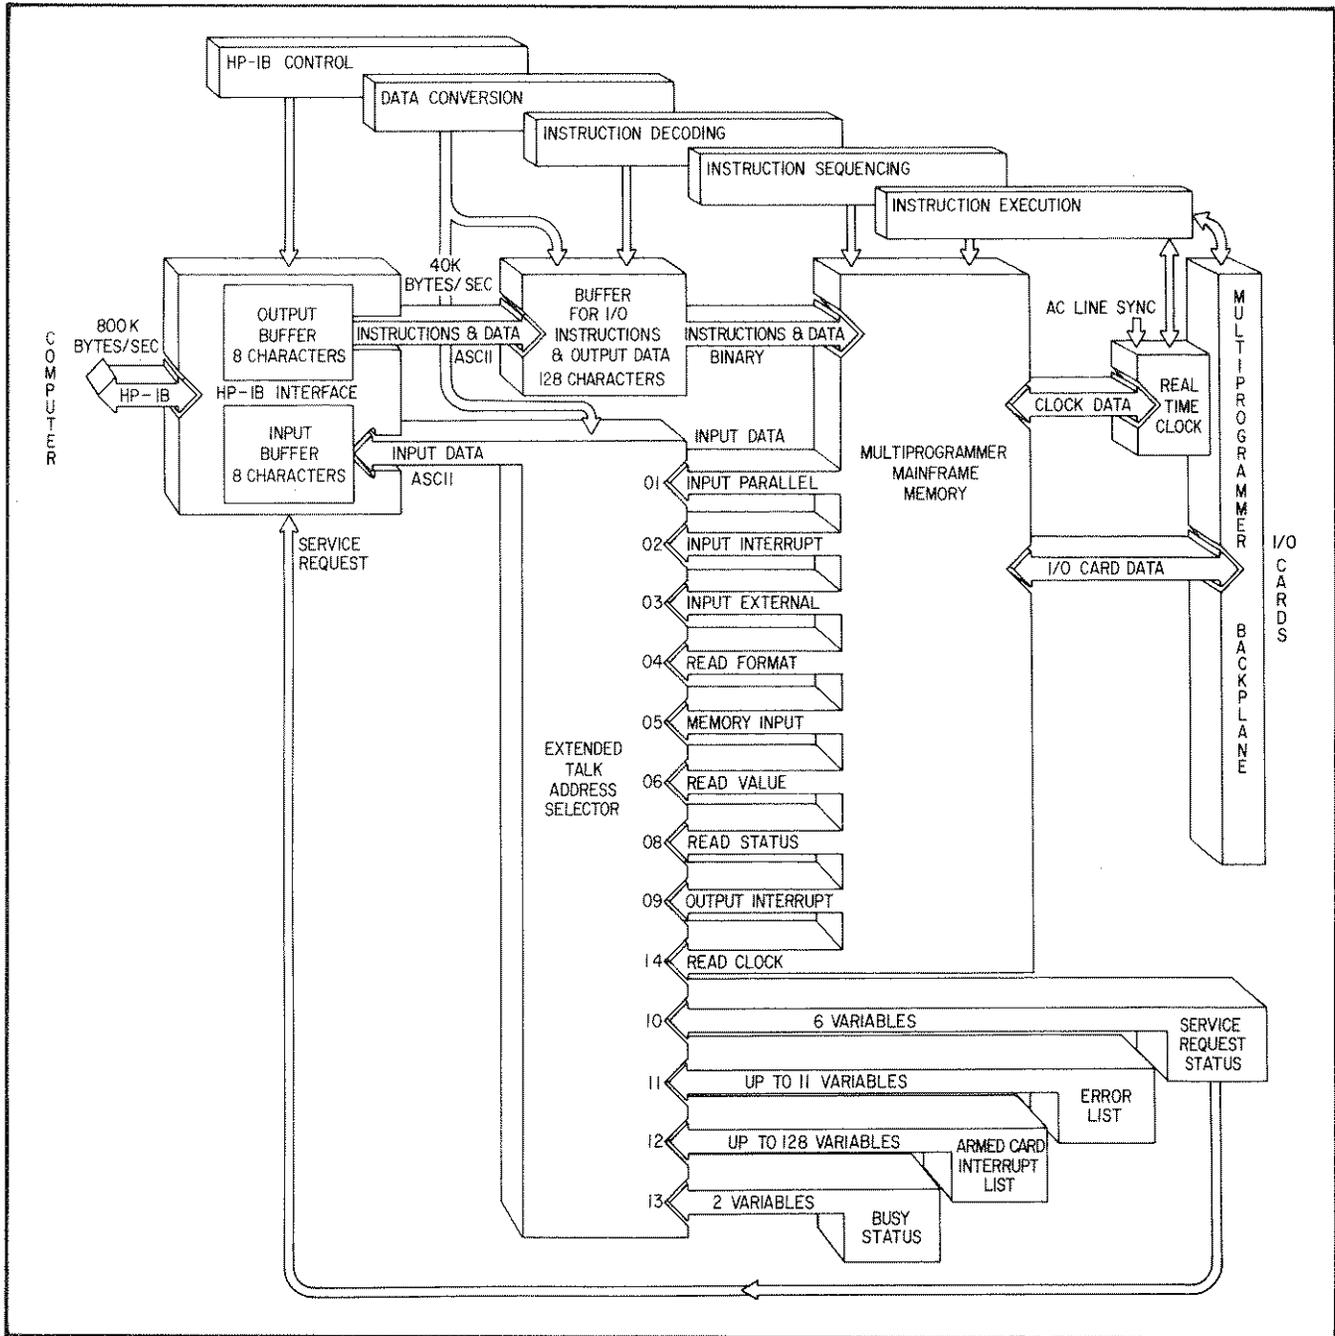

Figure 4-1. Instruction Processing, Flow Diagram
**4-17** The following paragraphs provide a general overview of the way in which the 6942A Multiprogrammer processes data messages (instructions and data). Figure 4-1 is a simplified instruction flow diagram which should be referred to when reading this discussion. In addition to the instruction
4-29 As shown in Figure 4-1, besides reading back data from instructions (Input Parallel, Input Interrupt, etc), the Multiprogrammer can also read back four different types of status information: Service Request Status, Error List, Armed Card Interrupt List, and Instruction Busy Status. The desired status information is processed and read back to the controller by the HP-IB Control program and the Extended Talk Address Selector in a manner similar to that described above for the Input Parallel (IP) instruction. The different types of status information are described in subsequent chapters.